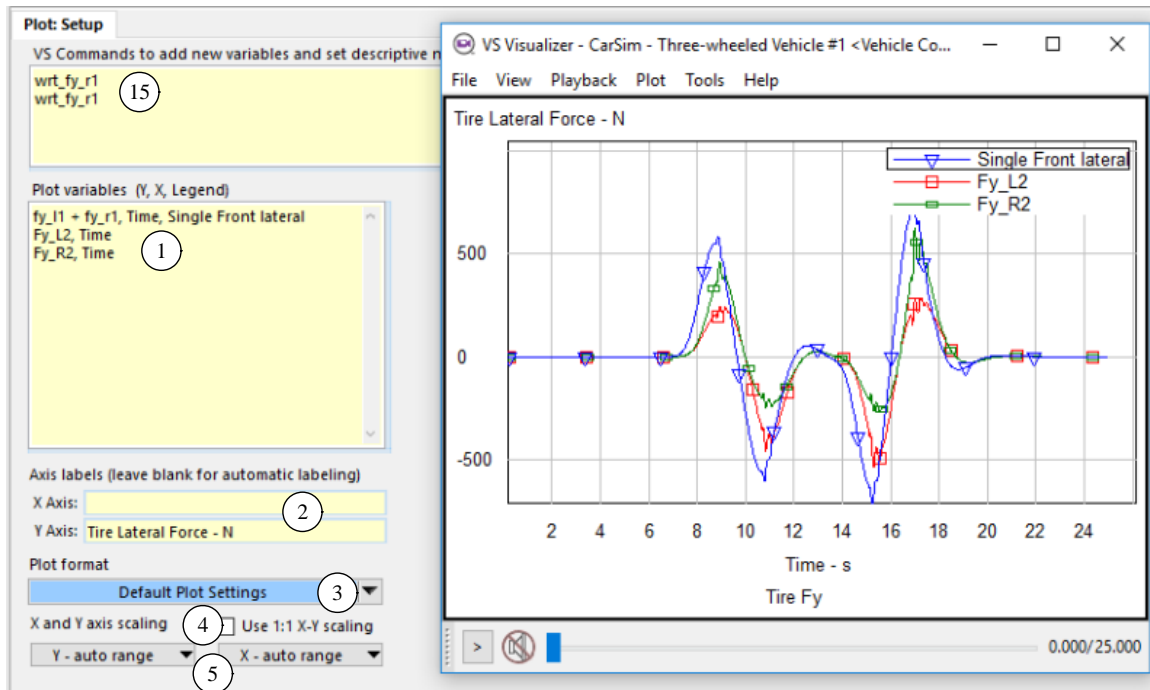

Figure 6. Using a formula to define a new output variable.
VS Visualizer supports the use of formulas to define a variable to plot or use in animation. and will create a new data channel by applying the formula to existing output variables. For example, Figure 6 shows how the sum of two front tire forces ($F_{y_L1} + F_{y_R1}$) is specified for VS Visualizer as first variable to plot (1).